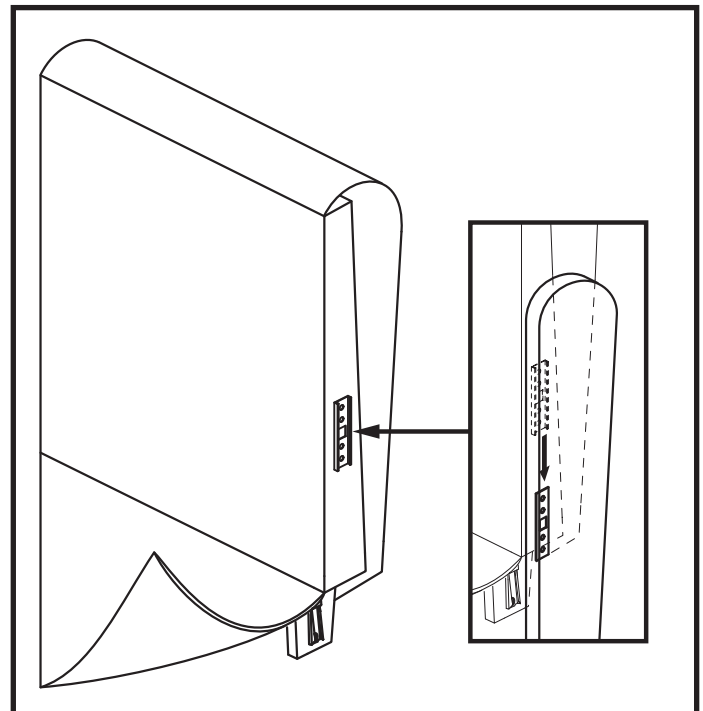

Figure 4. Wing Back Installation
6. If your model has back wings, align the KD sleeves, and slide the wing down into place, see **figure 4.** Please note there is a label on the brackets. Please assemble them as indicated (1-1 and 2-2).